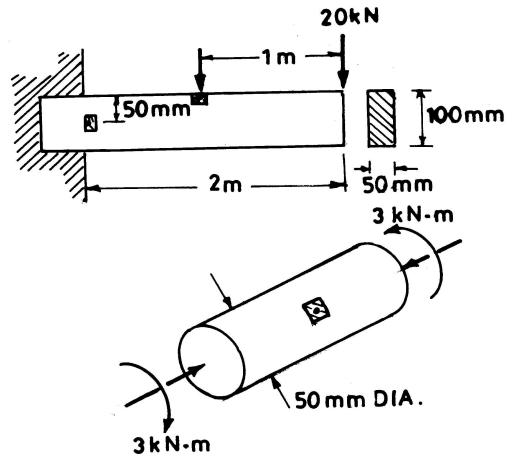

Fig. 1
1. For the engineering structures shown in Fig. 1 determine the normal and shear stresses at the point shown. Sketch an element in each case showing the magnitude and sense of the stresses on each face.